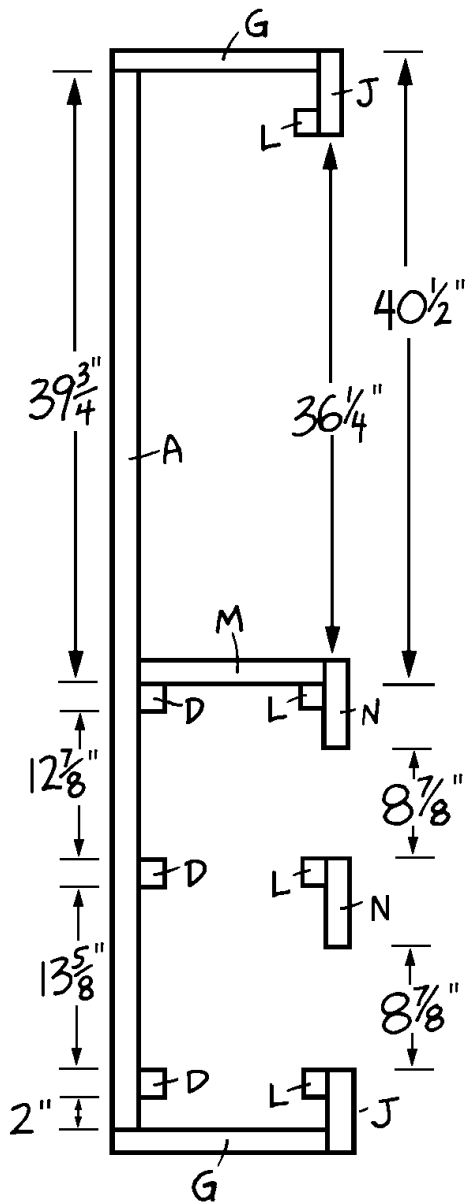

Figure 7
- Cut four  $39\frac{5}{8}$ " horizontal inner supports (L) from  $\frac{3}{4}$ " x  $\frac{3}{4}$ " pine. These will fit behind the narrow and wide horizontal frames (J and N)
and will support the inner shelves as well as stabilizing the narrow horizontal frames (J) that just attached. A cutaway view of the placement of the inner supports on the left side of the armoire is provided in *Figure 7*.
2. Glue one horizontal inner support (L) onto the inner edge of each of the narrow horizontal frame pieces (J), positioning them as shown in *Figure 7*. Secure the supports with 3d finishing nails, spaced 6" apart.
3. Attach a third horizontal inner support (L) 40-1/2" from the top edge of the armoire, across the front opening. It should be exactly level with the shelf support (D), which you previously attached to the wide back (A). Use 3d finishing nails to secure it to the back faces of the narrow front vertical (H) and the center front vertical (I).
4. Cut one 41-1/8" upper shelf (M) from 1 x 12 pine, and rip the shelf to 10-1/2" in width. The shelf will fit on top of the horizontal inner support (L) which you just attached and the shelf support (D) on the wide back (A), as shown in *Figure 7*. In order to make the shelf fit, each of the corners must be cut out to accommodate the inner vertical supports (C) inside the armoire. Cut out a square from each corner of the upper shelf (M), measuring just over 3/4" x 3/4", as shown in *Figure 8*.
8. We're finally going to use that fourth horizontal inner support (L) that you've been so worried about! Bet you thought we forgot. Attach this support (L) across the 36"-wide opening, 12-7/8" below the horizontal inner support (L) that is under the upper shelf (M), as shown in *Figure 7*. Nail and glue the support (L) to the inner faces of the center front vertical (I) and the narrow front vertical (H).
9. Glue the remaining wide horizontal frame (N) to the horizontal inner support (L), which you just attached. The long upper edge of the wide horizontal frame (N) should be flush with the top edge of the horizontal inner support (L).
10. Cut four 21-5/8"-long short inner supports (O) from 3/4" x 3/4" pine. These will fit behind each of the short horizontal frames (K) on the right side of the armoire to stabilize the joints.
11. Glue and nail one short inner support (O) to the inner face of the short horizontal frame piece (K) at the top of the armoire, flush with its edge. Secure the support with 3d finishing nails spaced about 6" apart.
12. Repeat Step 11 to attach the second short inner support (O) to the short horizontal frame piece (K) at the bottom of the armoire.